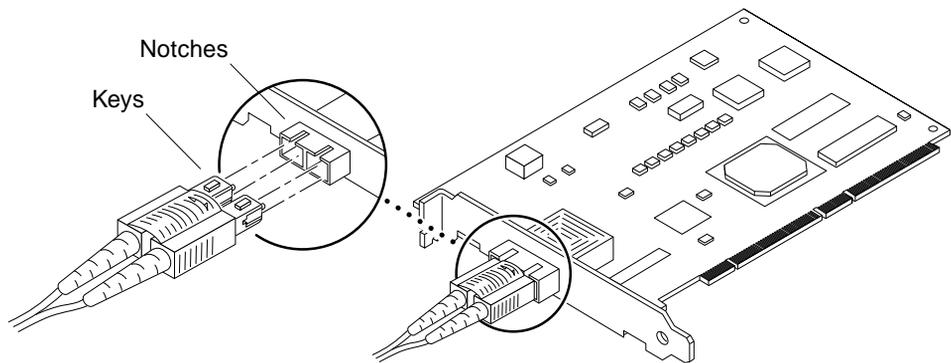

FIGURE 1-3 Connecting a Fiber Optic Cable to a GBIC
(FIGURE 1-3).
**Caution** – Fiber optic cables have keyed connectors; they can only be inserted into GBICs as shown in FIGURE 1-3.